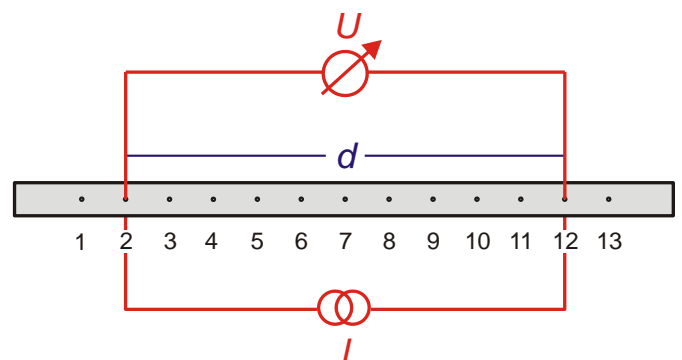

Fig. 2: Schematic of four-terminal sensing measurement
In the experiment, this relationship is used to determine the conductivity of metal bars using four-terminal sensing (Fig. 2). This involves feeding in a current  $I$  through two wires and measuring the drop in voltage  $U$  between two contact loca-
- Connect the “-” output socket on the back of the power supply to the hole in the side of the conducting rod level with the second measuring point (Fig. 2). Connect the “+” output socket on the back of the power supply to the hole in the side of the conducting rod level with the twelfth measuring point. Connect the digital multimeter in series between them for the purpose of measuring voltage.